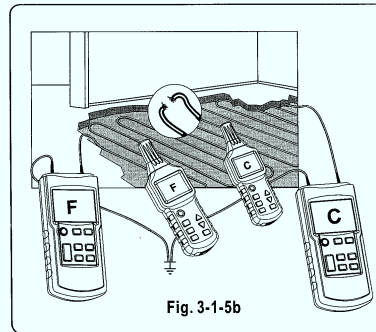

Fig. 3-1-5b
- Connect both transmitters (if two transmitters are used) as shown in Fig. 3-1-5b.